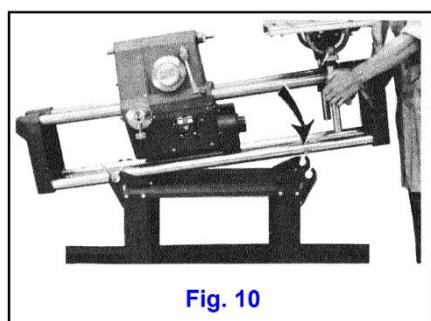

Fig. 10
5. Mount tubular bed and power head assembly. Determine front of stand: Safety latches (No. 10, Fig. 2) are nearer front side. Position trunnion handles (No. 9, Fig. 2) at 45° so that keys of trunnion are vertical and set power head and bed assembly in the brackets (Fig. 10). Jockey brackets until trunnion keys at both ends seat properly and then lock in place by turning handles down to horizontal position.